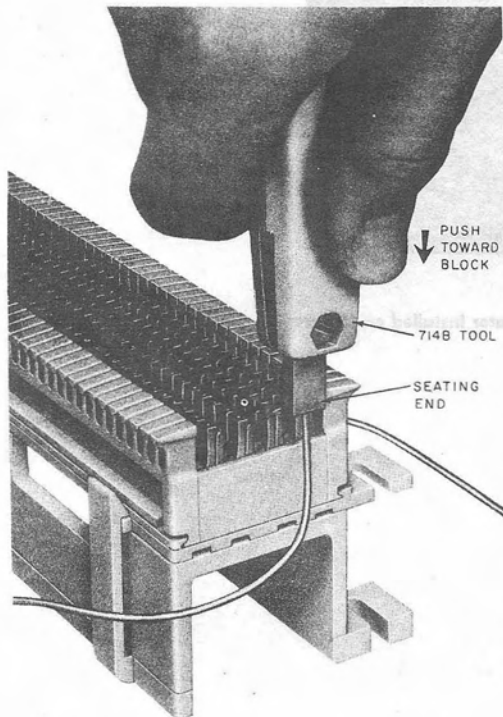

Fig. 13—▶Making Loop-Through Termination◀
3.13 To make a loop-through termination on the connecting block, proceed as follows (Fig. 13 and 14):